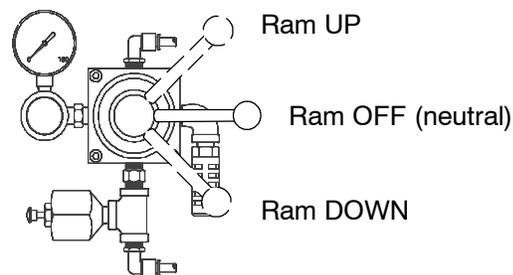

Fig. 3
The ram hand valve lever on the ram air control has 3 positions (Fig. 3):
1. Move the ram hand valve lever to the OFF position (Fig. 3 on page 12). Close the ram air regulator and main air control valve.
2. Move the ram hand valve lever to the UP position (Fig. 3 on page 12). Open the main air control valve and ram air regulator until the ram starts to move upward. Let the ram rise to its full height.
4. Move the ram hand valve lever to the DOWN position (Fig. 3 on page 12) and lower the ram until the follower plate is just ready to enter the pail, then move the ram hand valve lever to OFF. If necessary, reposition the pail so the wiper will not hit the pail lip.
6. Move the ram hand valve lever to the DOWN position (Fig. 3 on page 12), to lower the follower plate into the pail, until all air is forced out and fluid comes out of the vent opening.
8. Set the air pressure to the ram at 4 bar (50 psi). Move the ram hand valve lever to the DOWN position (Fig. 3 on page 12).
1. Move the ram hand valve lever to the DOWN position (Fig. 3 on page 12).
1. Move the ram hand valve lever to the OFF position (Fig. 3 on page 12). Shut off the air supply to the ram and pump.
1. To stop the ram from moving, move the ram hand valve lever (Fig. 3 on page 12) to the OFF position.